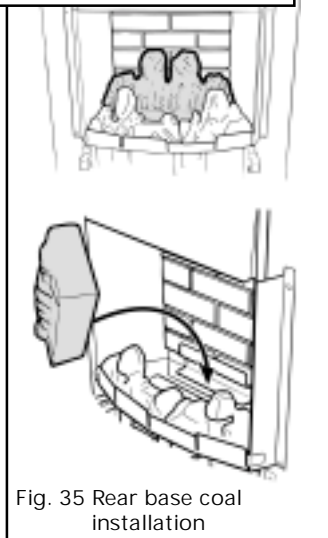

Fig. 35 Rear base coal installation
**10.3** Place the rear base coal in the burner compartment behind the front coal. Its rear face should touch the rear ceramic wall (See figure 35)